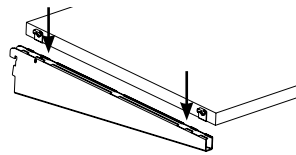

Figure 3
STEP 4: Install wood shelves by inserting the wood shelf clips into the four pre-drilled holes and inserting the assembled shelves into the slots on the shelf brackets (**Figure 3**).